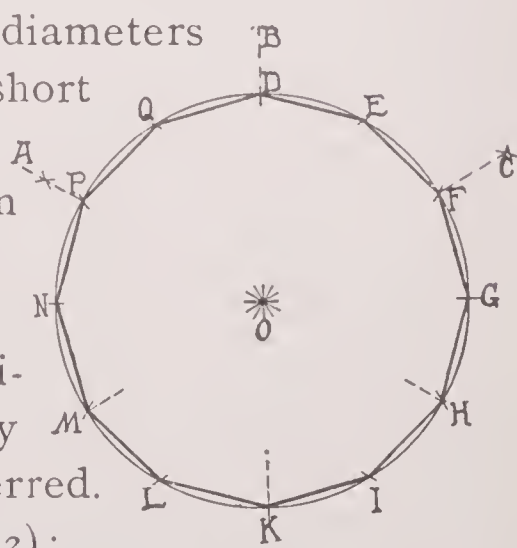

Fig. 22
22. To inscribe a regular dodecagon in a circle (Fig. 22):